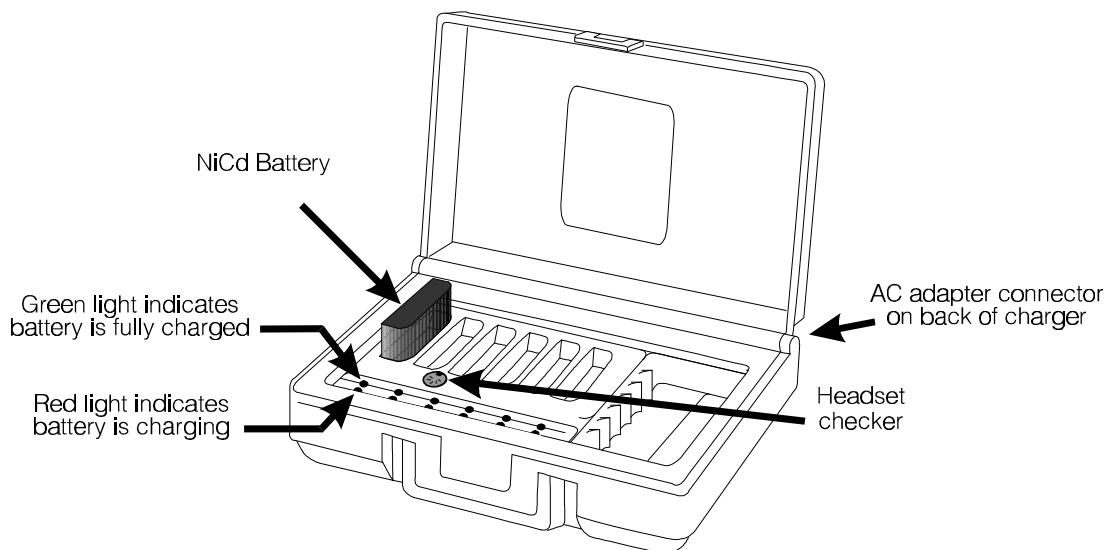

Figure 8. Battery charger features
3. Battery Charger (See Figure 8 on page 5.)
Be sure your battery charger is set up in a low-traffic area, away from dust and splashing water or grease. The AC adapter cord must be plugged into the connector on the back of the battery charger case, and the adaptor must be plugged into an electrical outlet. You may place up to six batteries in the charger at a time. As each battery is placed in the charger, the red CHARGING light on the panel in front of the battery will light, indicating the battery is charging. See Figure 8. When a battery is fully charged, the green READY light on the panel in front of it will light. Batteries take approximately 10 hours to fully charge.